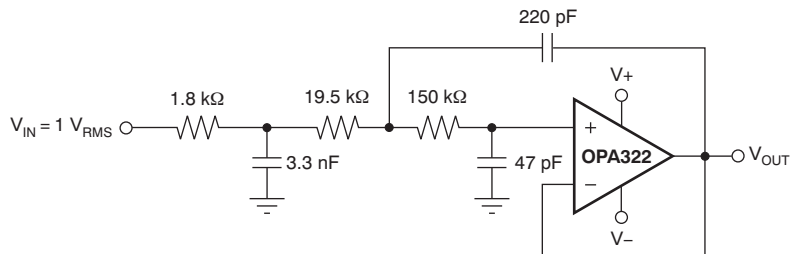

Figure 33. OPA322 Configured as a Three-Pole, 20-kHz, Sallen-Key Filter
3. using a noninverting filter topology, such as the Sallen-Key (shown in Figure 33).